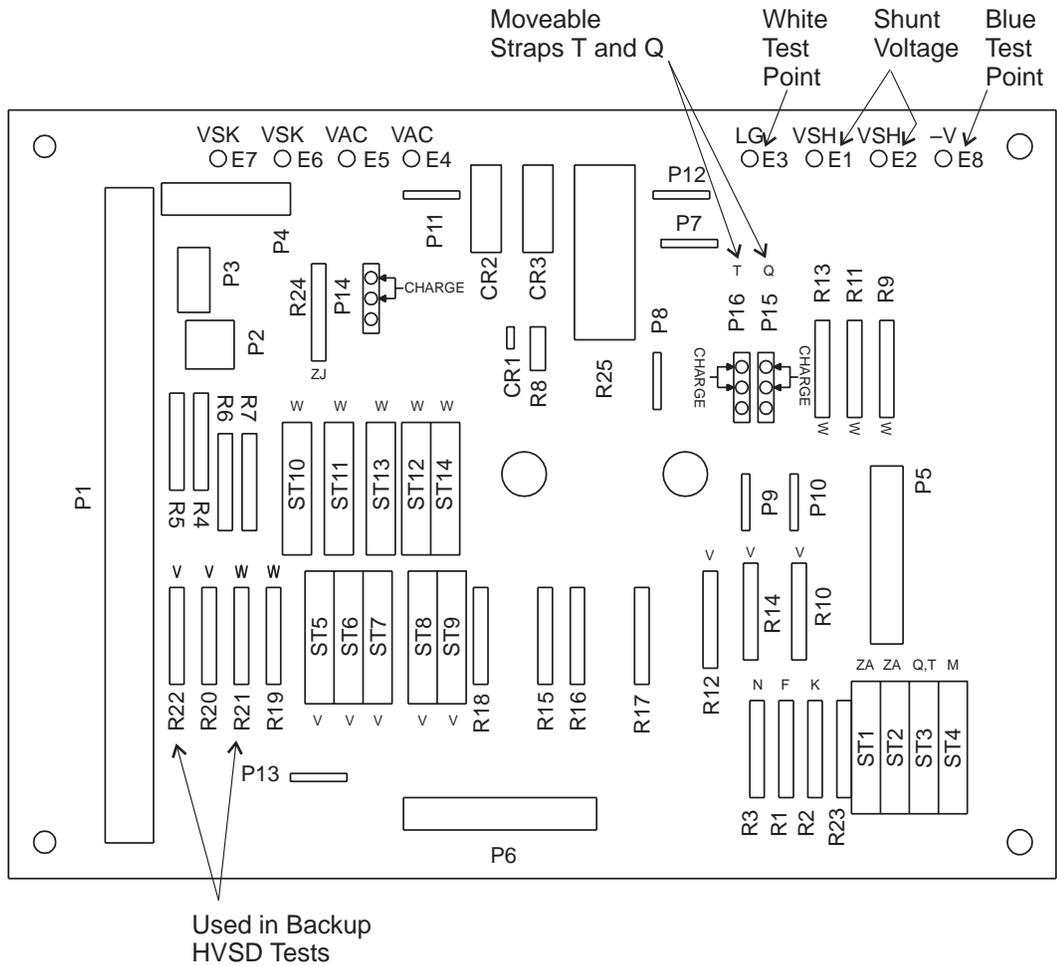

Figure 6-2: CM1 Option Board (ED83158-30 Grp 2, A) Showing Test Clip Connections and Movable Straps “Q” and “T”
2. Move the straps provided for options “Q” and “T” (P15 and P16) on the **CM1** option board from normal position to charge position as shown in Figure 6-2.
4. Place the Battery Plant Simulator Test Set (Figure 6-1) at a convenient location near the rectifier. Connect **J2A**, on the other end of the cable from the test set, to connector **P2A** on the **CM2** control board, which is mounted on the inside of the rectifier door. Connect the red, black, blue, and white test clips from the test set to the **CM1** and **CM2** boards in the rectifier as detailed in Table 6-B. Refer to Figures 6-2 and 6-3.
2. Disable the internal selective shutdown by moving the “Q” (**P15**) or “T” (**P16**) movable straps on **CM1** to the Charge position (see Figure 6-2). Verify that moveable strap P14 remains in the 2-3 (NOT the Charge) position for this test and after the rectifier is placed into service. The P14 Charge position is only used to raise the Backup HVSD level of the rectifier when it is being used for applying the initial charge to connected batteries.